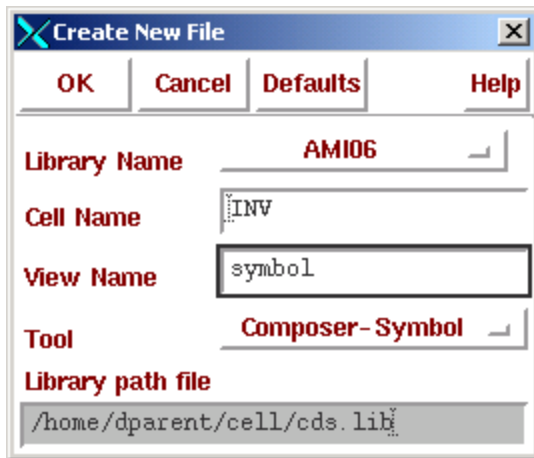

Figure 26: Creating a symbol
1. Goto the library manager popup and goto: file... New... cell view. A pop-up like Figure 26 should appear.